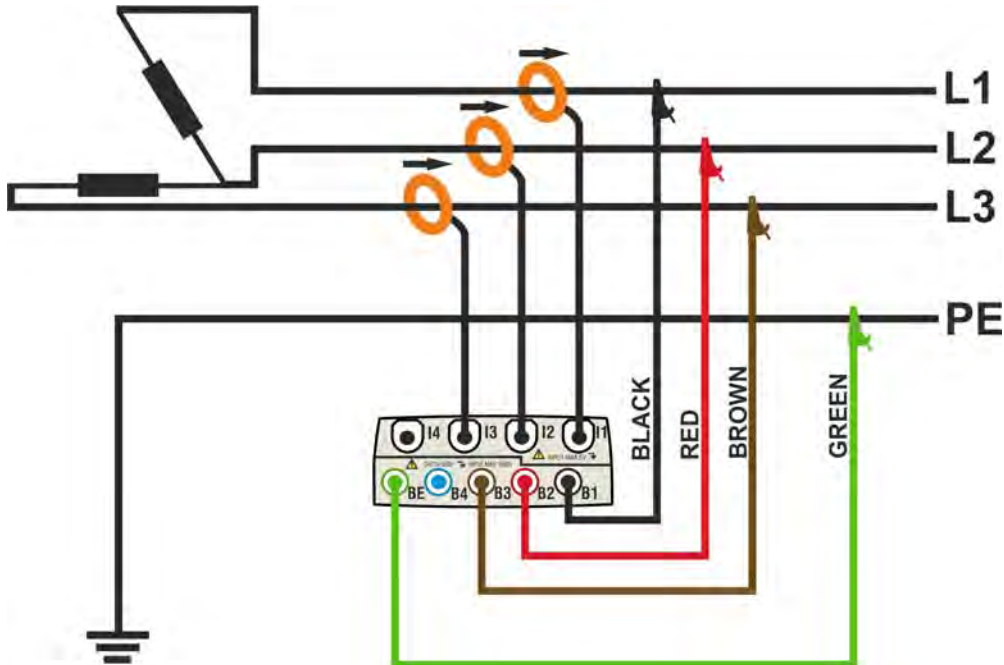

Fig. 124: Meter connection in a three phase 3-wire 3P OD system
2. Connect voltage test leads on Phases L1, L2, L3 and PE cables considering the colours as shown in Fig. 124. **Verify the result “123” at display relative to a correct phase sequence indication** (see § 5.2.1) and perform the corrections if necessary.
3. Connect the transducer current clamps on Phase L1, L2, L3 cables as shown in Fig. 124 respecting the clamp’s arrow direction indicating the current standard sequence from generator to load. **On Real Time Values’ section screens (selecting a 3 wire system preliminarily) always verify the positive value of Active Power and the power factor relative to load which should be normally inductive** before starting a recording. Reverse the clamp by 180 degrees on cables in case of negative readings.